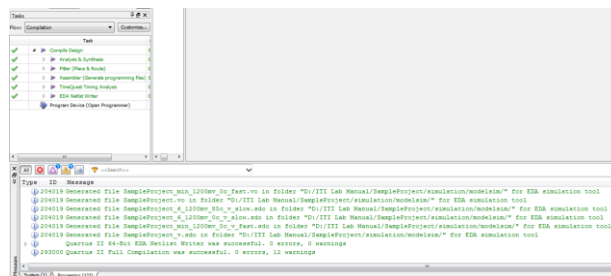

Figure 4.4.1: Compilation results
- Details can be found in the bottom dialogue box (Figure 4.4.1).